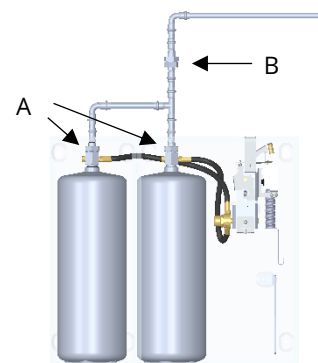

Figure 5.7: Piping system for a manifolded system.
2. Connect a piping configuration like illustrated in *Figure 5.7*. Press a $\frac{3}{8}$ " adapter and a 90-degree elbow to a short pipe. Fasten it to one of the tank valves. At the other tank, make a similar attachment but with a tee instead. Connect the pieces with a horizontal pipe segment. Mount a union coupling for manifold with burst disc (p/n 55-1621-27) directly following the tee. It should be mounted with the protruding segment facing in the direction to the nozzles. Use $\frac{3}{8}$ " adapters at both pipe connections to the union coupling and fasten with thread tape.